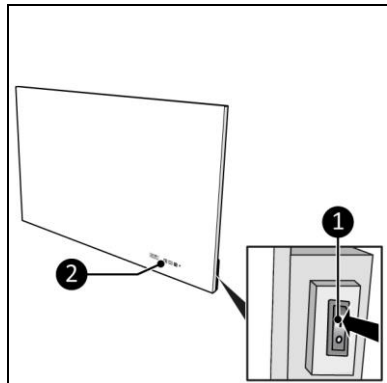

Figure 11
1. Set the ON/OFF switch to the ON position (Figure 11, pos. 1).
2. The control panel and display (Figure 11, pos. 2) will light up.